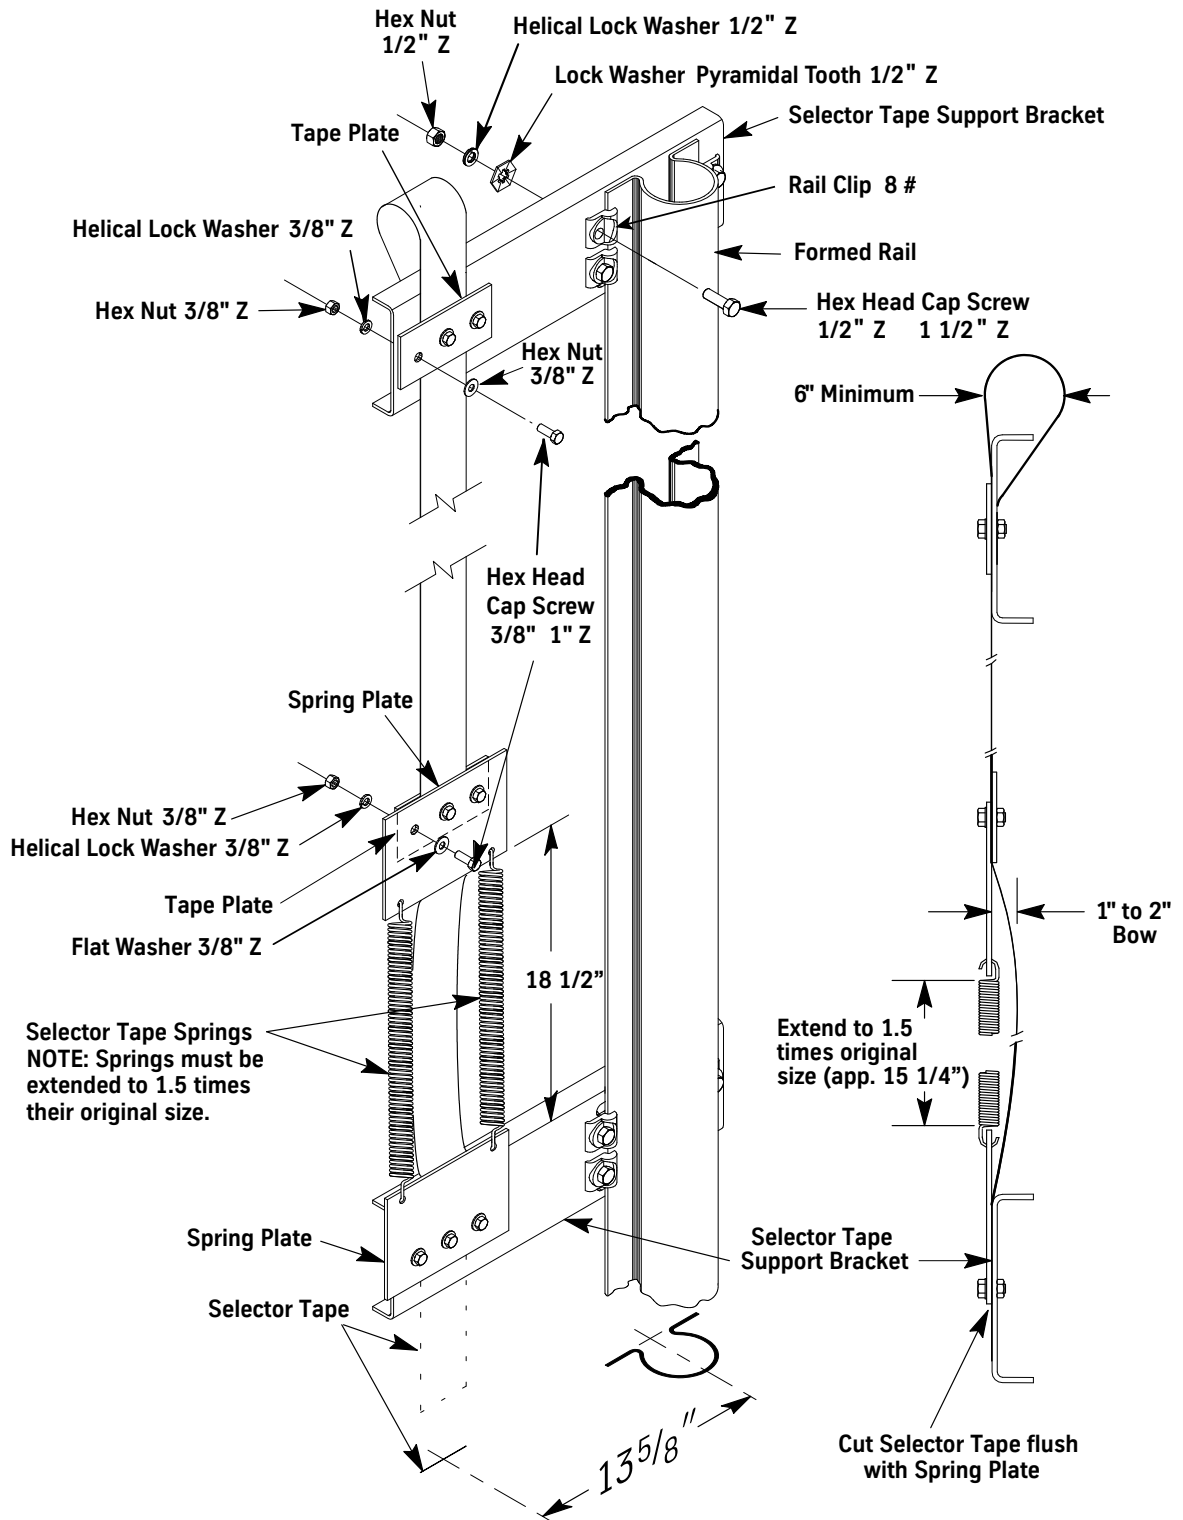

Figure 7 - Selector Tape Installation
1. Install the top tape support bracket. See the job layout for the proper quadrant and position, and Figure 7 on page 11 for all steps in this procedure.
6. Stretch the two (2) selector tape springs between the spring plates. If properly installed, the springs will be 1 1/2 times their normal length, e.g., a 10" spring will be stretched to 15".
7. Check the bow in the selector tape for the dimension given in Figure 7. If the bow is incorrect, adjust the tape at the bottom support bracket.